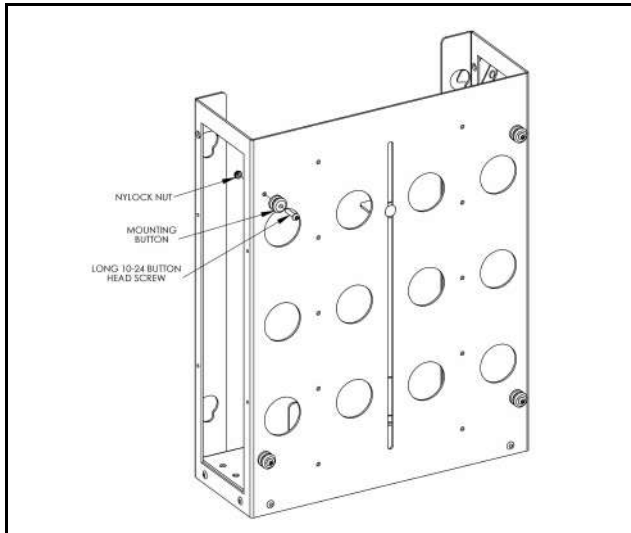

Figure 1
1. Using a 10-24 button head cap screw (G) inserted from inside of bracket, secure mounting button (E), with chamfered hole of mounting button (larger surface) facing bracket, to bracket. Repeat with other three mounting buttons. (See Figures 1 & 2)